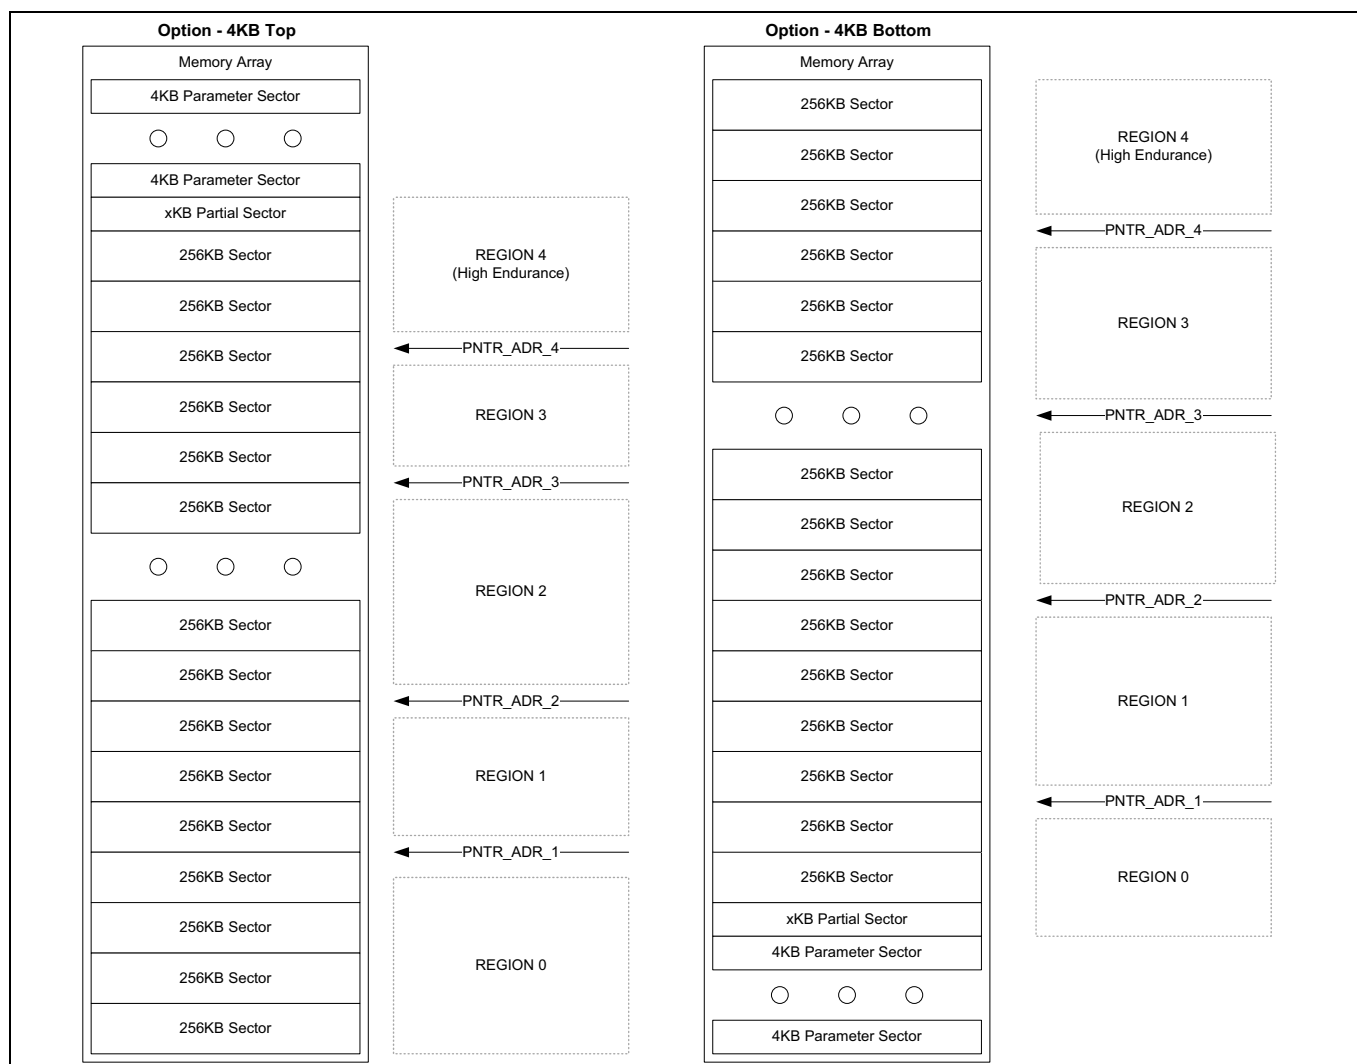

**Figure 20** Infineon Endurance Flex architecture overview
**Figure 20** provides an overview of the Infineon Endurance Flex architecture. It shows the five possible regions based on different sector architecture.